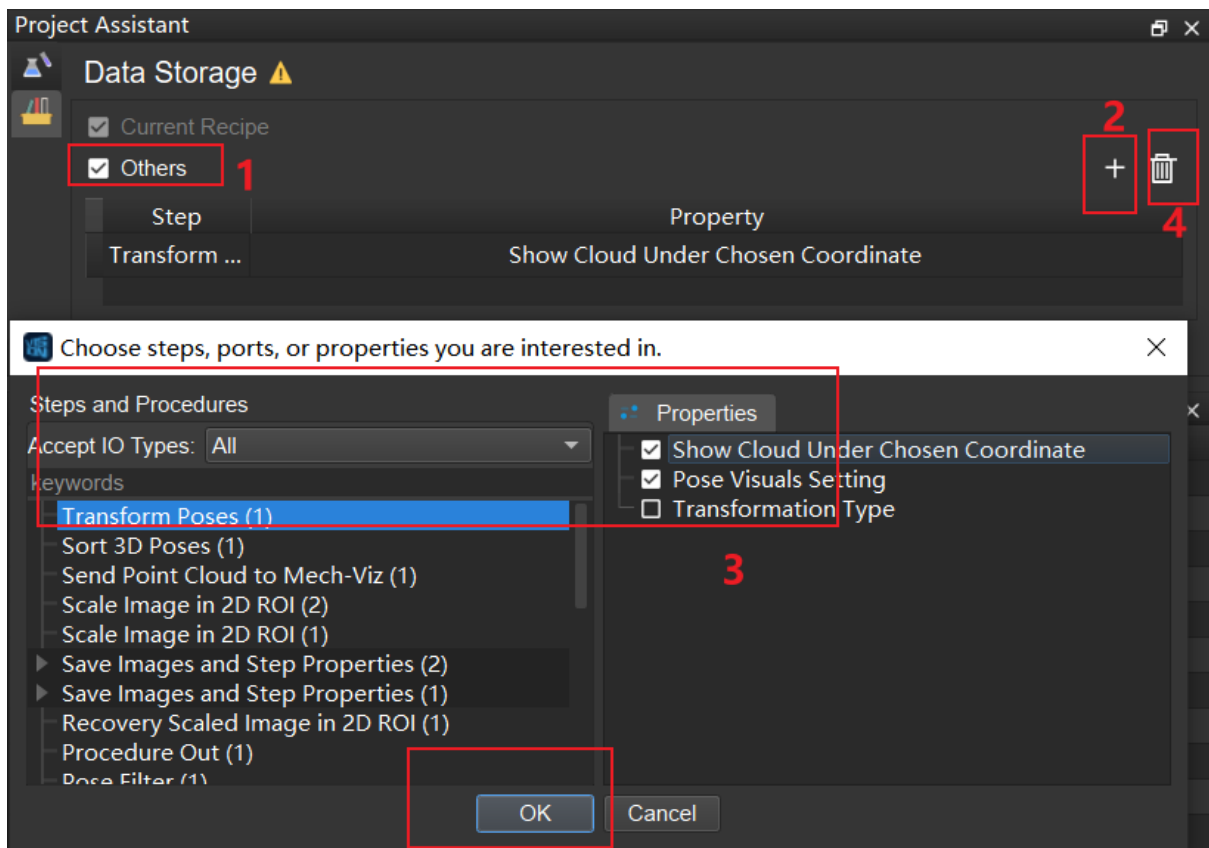

Figure 3. Add Step parameters
2. The *Parameter Recipe* used the running the project is saved by default for data playback. In addition to the parameter recipe, data that needs to be saved can be added by the steps shown in Figure 3.